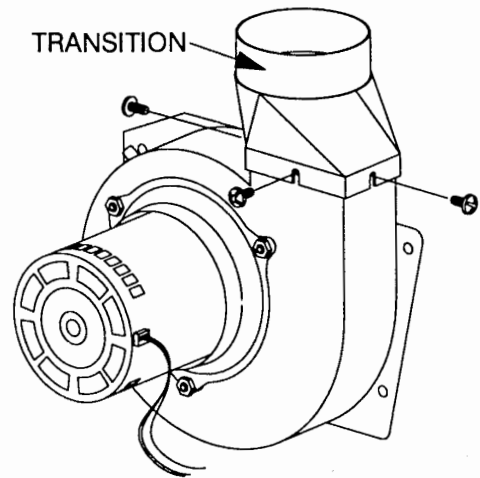

Figure 5 – Vent Blower
9. Install the cast aluminum transition on the vent blower, using the three screws supplied on the vent blower (See Figure 5).